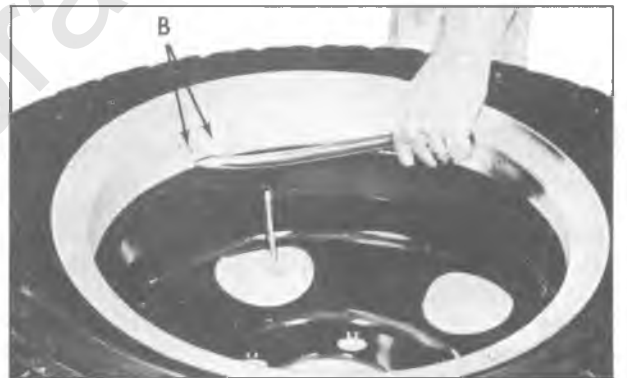

Figure 12—Disengaging Side Ring From Rim Gutter
3. Insert straight end of tire iron into operating notch located at double pimples "B" (fig. 12).